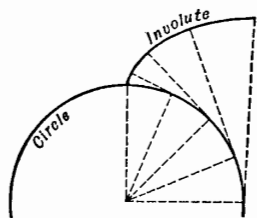

Fig. 65
66. An *Involute* is a curve traced by the end of a string as it is wound upon another curve, as a circle, or unwound from it. Fig. 65.